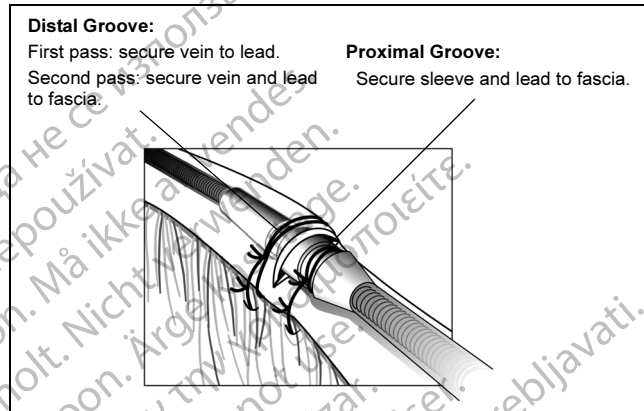

Figure 8. Using the sleeve with the venous cutdown technique.
1. Slide the suture sleeve into the vein past the distal groove. Ligate the vein around the suture sleeve to obtain hemostasis. Next, using the same groove, secure the lead and vein to the adjacent fascia (Figure 8).